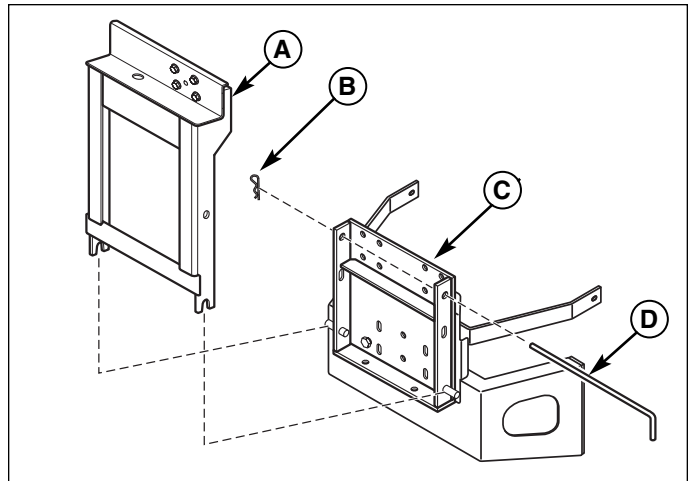

Figure 15. Install Back Plate (Flat Style Bumper)
2. Set the back plate and support (A, Figure 15) onto pins of hitch plate (C). Secure with rod (D) and hair pin (B).